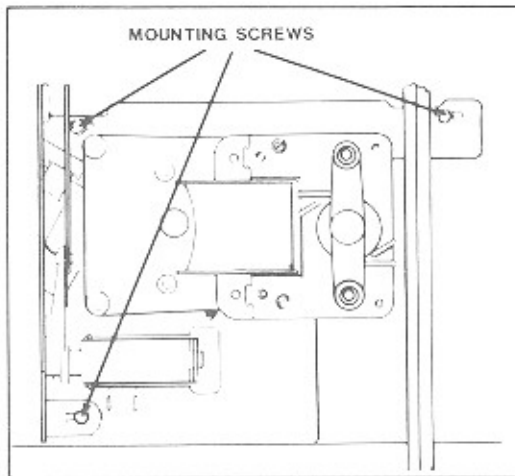

Figure 6-9. Sprag Assembly Removal
1. To remove sprag assembly, disconnect wires to the solenoid and motor, remove the three mounting screws and slide the assembly out of the right side of the mechanism (see figure 6-9).